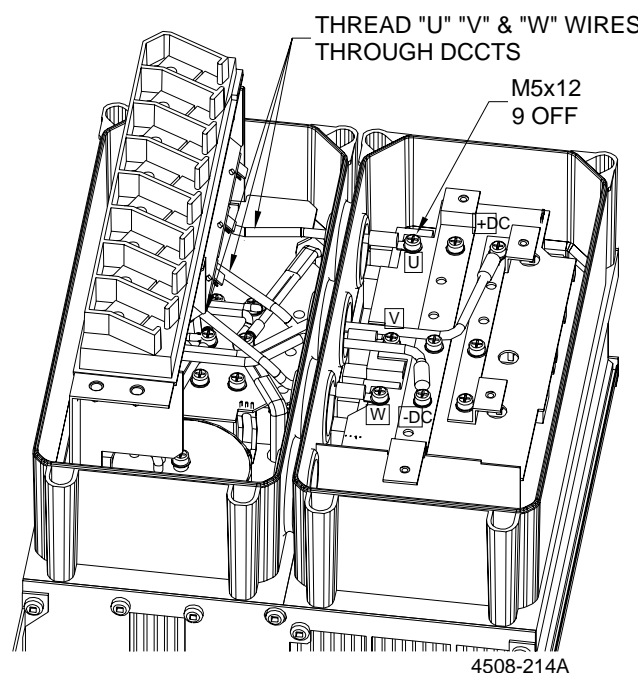

Figure 2.21: IGBT Removal
- 1) 9 off M5x12 screws, visible in figure 2.21 in the right cabinet.